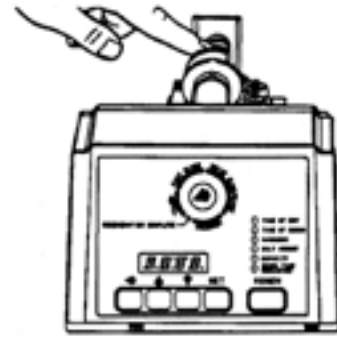
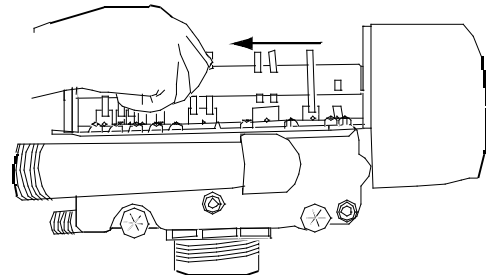

Figure 12
Figure 13
5. To remove the camshaft or to reinstall it, the arrow on the rear of the cam shaft must be pointing at the line on the rear "hoop" of the top plate. This occurs when the cycle indicator is rotated to the refill position. Press down on the back of the camshaft to disengage it from the rear "hoop" of the top plate, Figure 12. Slide the camshaft back to disengage it from the timer, Figure 13.